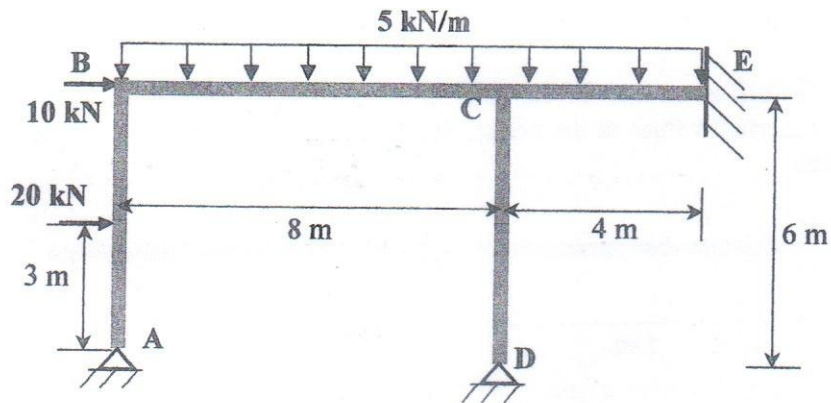

Fig.4
4. Using the moment distribution method determine the moments at joints B and C for (25) the frame shown in Fig.4. Also, draw the bending moment diagram for member BCE of the frame. Supports A and D are pins, and E is fixed. Here, EI is constant.